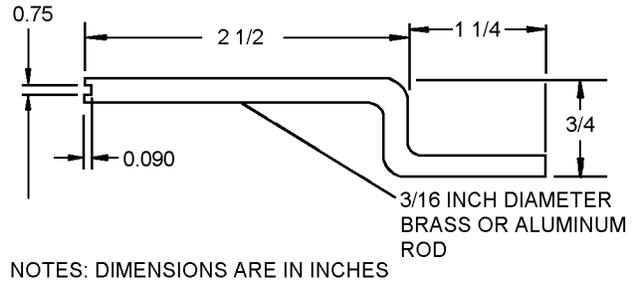

Figure 3-2. Core Tool
3-6. A pneumatic inflator valve (check valve) core tool, part number 8769A or equivalent (CAGE 27783), can also be fabricated as described here. See figure 3-2.
2. Fabricate as shown in figure 3-2.